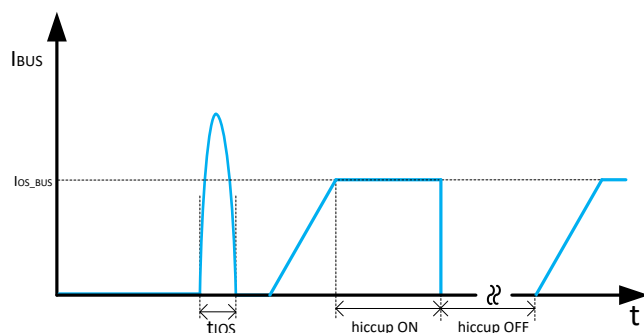

Figure 10-5. Response Time to BUS Short-Circuit
- The first condition is when a short circuit or overload is applied to the USB output when the device is powered up or enabled. There can be inrush current and once it triggers the approximate 8-A threshold. A fast turnoff circuit is activated to turn off the USB power switch within t_{IOS_USB} before the current limit control loop is able to respond (shown in Figure 10-5). After the fast turnoff is triggered, the USB power switch current-sense amplifier is over-driven during this time and momentarily disables the internal N-channel MOSFET to turn off USB port. The current-sense amplifier then recovers and ramps the output current with a soft start. If the USB port is still in overcurrent condition, the short circuit and overload hold the output near zero potential with respect to ground and the power switch ramps the output current to I_{OS_BUS} . If the overcurrent limit condition lasts longer than 4.1 ms, the corresponding USB channel enters hiccup mode with 524 ms of off-time and 4.1 ms of on-time.